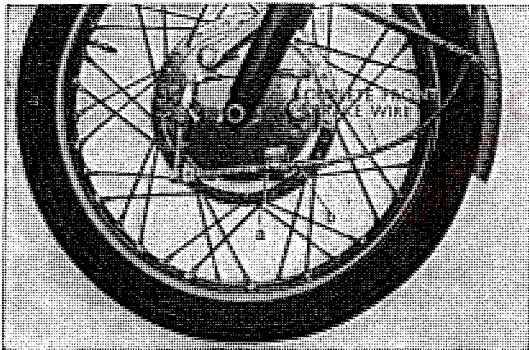

Fig. 4.79 Front brake wire adjuster
8. Connect the front brake cable to the brake arm and adjust the play. For adjustment, loosen the nut (a); if the adjuster (b) is turned clockwise, the play increases and vice versa. The designated play ranges from 30 (1.17") to 40 mm (1.56"). (Refer to Fig. 4.79 and 4.80)